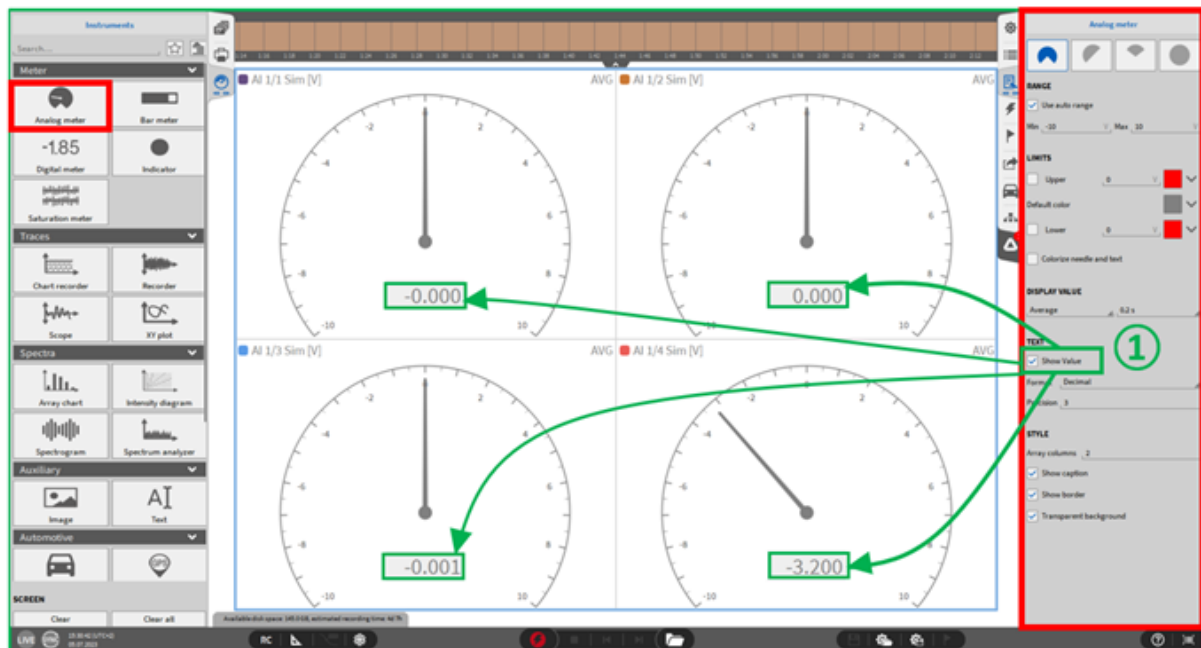

Fig. 8.5: Analog meter - Overview
- Show value: If the checkbox for “Show value” is activated (see ① in Fig. 8.5), the value is additionally shown in digital form in the analog display.